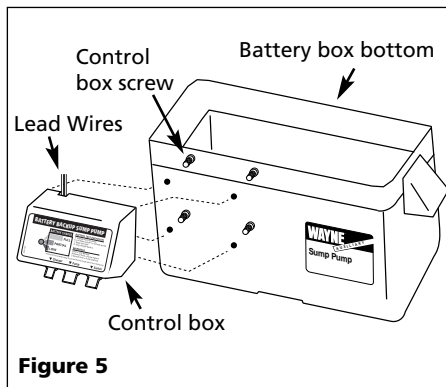

Figure 5
9. Attach control box to the side of battery box as shown in Figure 5. Place battery in box, attach red cable to positive battery post and black cable to negative post. Put lid on box and strap closed.